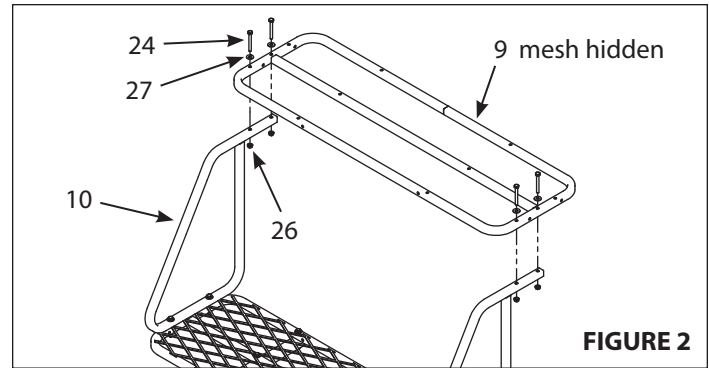

FIGURE 2
3. Attach the other mesh platform (9) to the top of side braces (10) using four 1/4-20 x 2-1/4" bolts (24), locknuts (26) and steel washers (27). This now makes this mesh platform the seat platform. **SEE FIGURE 2.**